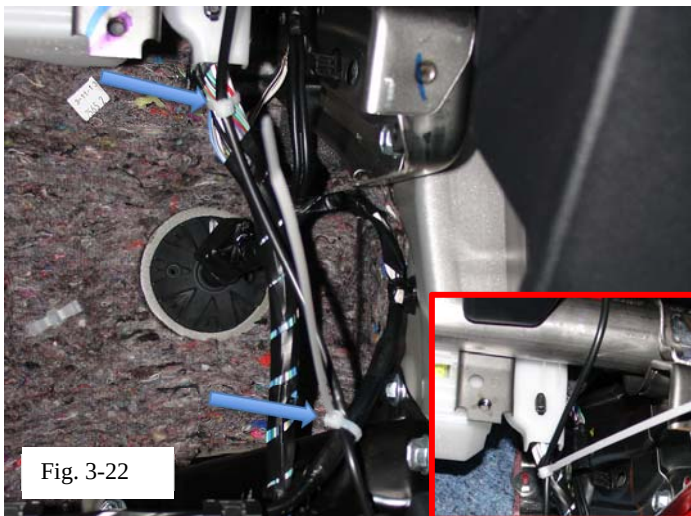

Fig. 3-22
13. Route LED wire down along existing harness behind glove box opening, in front of dash support tube (see insert picture), and towards passengers side cowl connector block as shown, secure with two (2) wire ties. (Fig. 3-22)